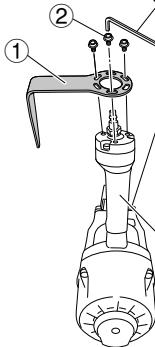

Fig. 1
- Fix the hook (①) to the main unit in three locations using the M5 × 16 flange bolts (②) (Fig. 1).